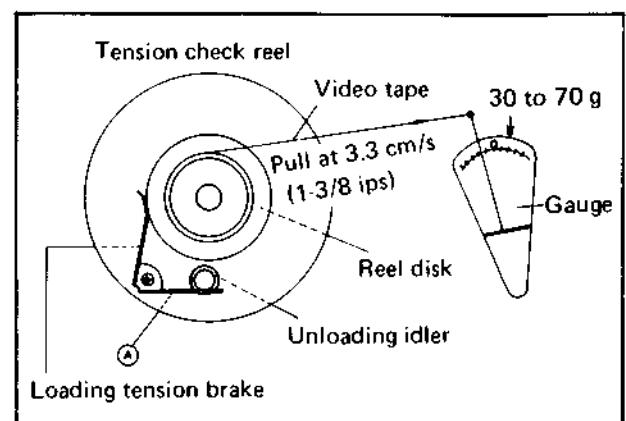

Fig. 4-10
5. Measure the supply loading tension by pulling the video tape and reading tension gauge as shown in Fig. 4-10.